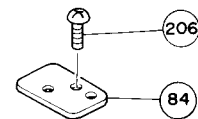
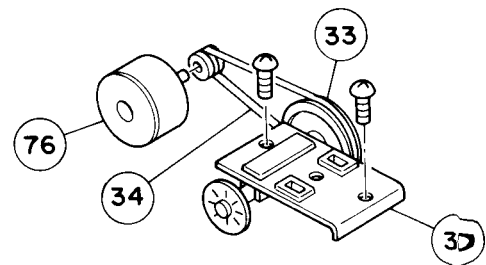

Figure 7
Figure 8
- (1) After removing the cabinet top, remove position PCB Assembly "84" as shown in Figure 7.
- (2) Remove the Belt "34" between Servo-controlled Motor "76" and Pulley "33".
- (3) Remove the Bearing Assy "30" as shown in Figure 8.